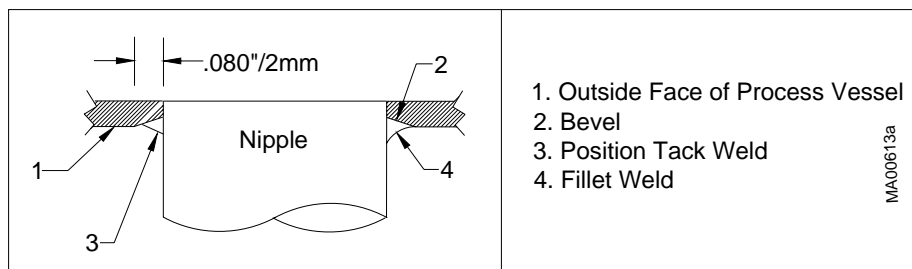

FIGURE 10 Nipple Installation
1. Cut the hole for the nipple to produce a tight fit. An oversize hole will result in distortion of the nipple. See Figure 10.